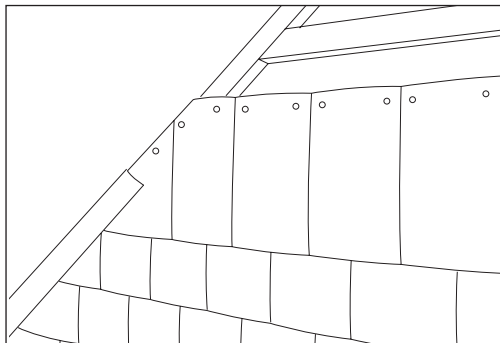

Fig 82 – Cut tile to meet rake of verge
- Cut vertical tiles to meet raking battens using tile-and-a-half tiles at end of each course. (Fig 82).